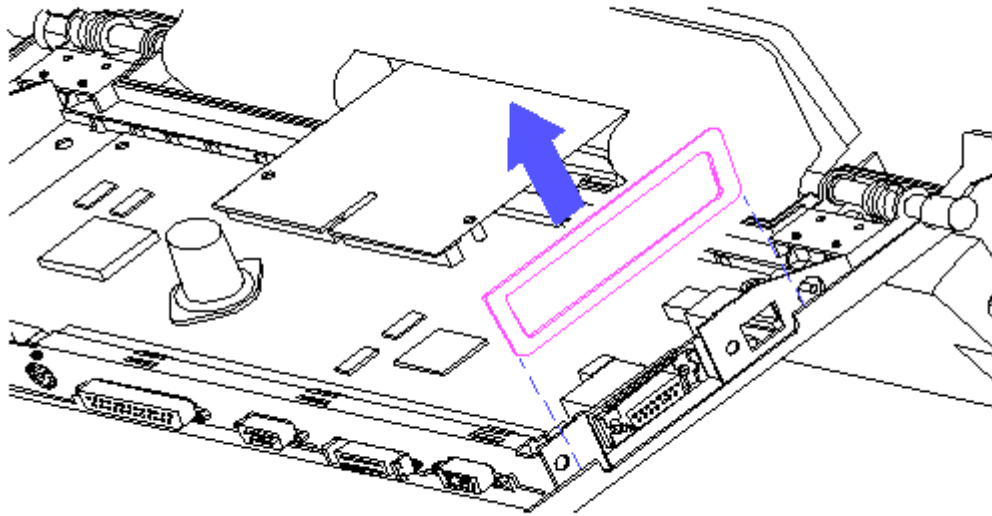

Figure 4-10. Removing the Bezel
4. Remove bezel from side of the FlexConnect (Figure 4-10). The Ethernet version is illustrated but Token Ring and pass-through bezels are installed in the same manner.